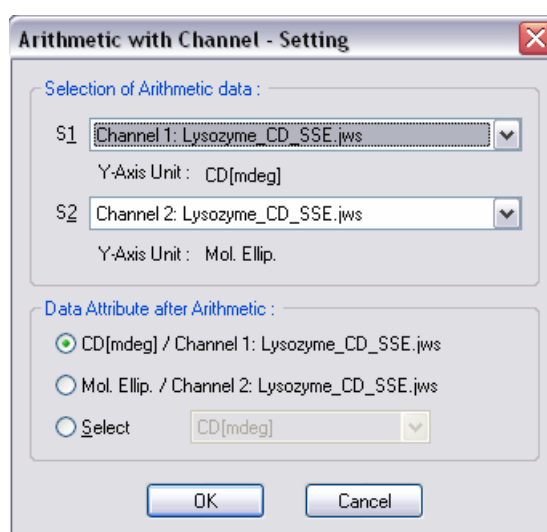

Figure 7.23 [Arithmetic with Channel - Setting] dialog box
- (2) Select the ch# for S1 and S2. Clicking the arrow on the extreme right displays a list of S1 and S2.
- (3) Set the vertical axis unit after the calculation. Select either [/Channel 1], [/Channel 2], or [Select]. When [Select] is selected, a selection of units are available, which are displayed by clicking the arrow to the extreme right of the [Select] box.
- (4) Click on the <OK> button of Fig. 7.23. The following view is displayed (the vertical axis unit was set to be A.U.).